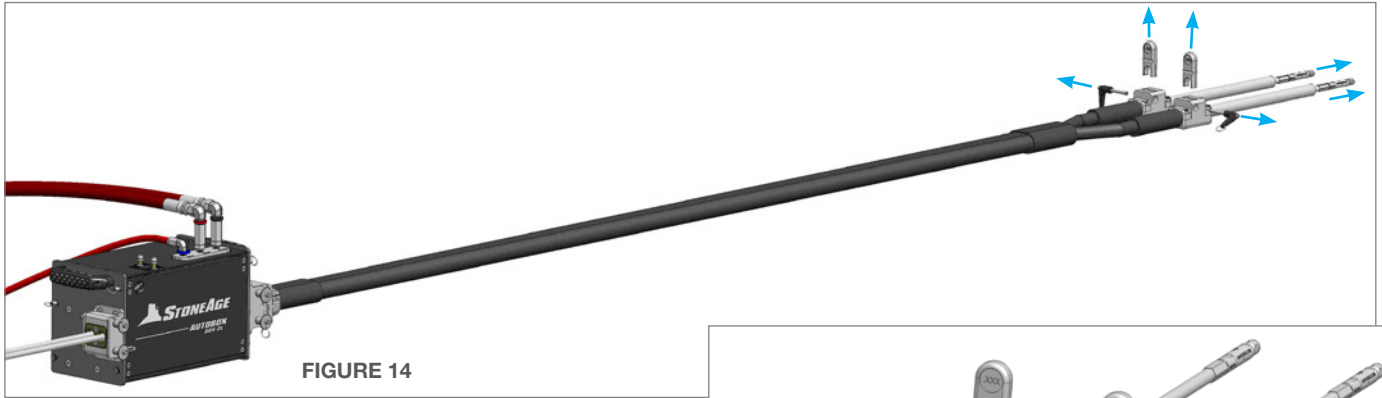

FIGURE 14
14. Install the Banshee tools (NOT INCLUDED IN FIN FAN KIT) on the end of the High Pressure Hose Fittings before running the hoses through the ABX-2L Hose Tractor and the Fin Fan Snout Assembly. This will protect the threads on the Hose Ends. Assuming the ABX-2L Hose Tractor and Control Box are connected to an air supply, remove the Quick Release Pins and Hose Stop Collets as shown in **(Figure 14)**, and run the hoses through the Fin Fan Snout Assembly until the Banshee tools exit the Hose Guide Tubes.